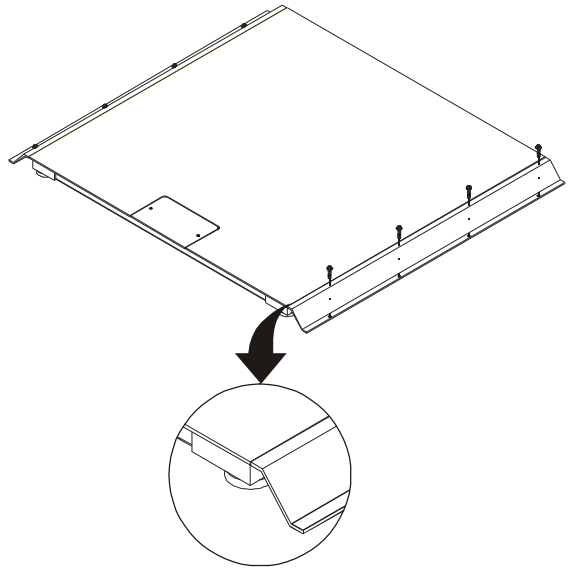

FIG. 28 BUMPER GUARD/GAP REQUIREMENT
Step 1. Place the bumper guard so it will protect the platform from non-scale traffic and not touch or interfere with the platform's movement. (See Figs. 28 & 29)